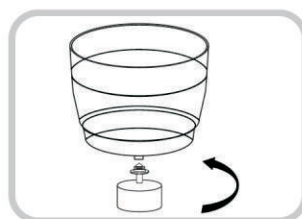
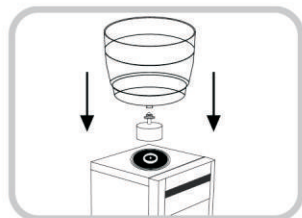

Fig. 6
Fig. 7
2. Screw on the Floating Valve to the bottom of the Lower Barrel (Fig. 6). Place the Lower Barrel with the Floating Valve attached on top of the water dispenser. Make sure the Lower Barrel sits properly level and secure on top of the water dispenser. Once the Floating Valve is attached to the Lower Barrel, it will remain suspended inside the water dispenser. (Fig. 7).